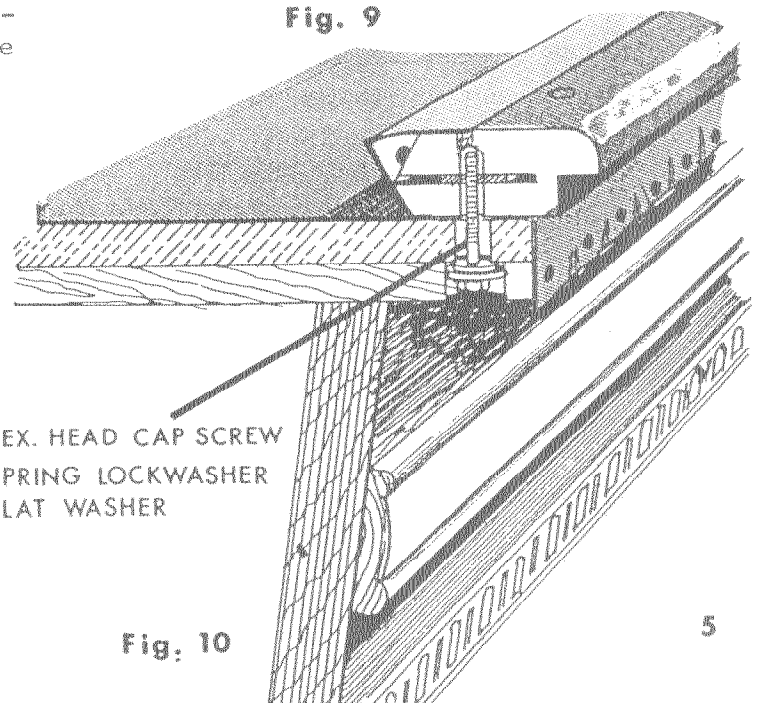

Fig. 10
21. Align holes in bottom of rail with holes through slate frame. Adjust side rails until the cushion nose forms a straight line from head end corner pocket to foot end corner pocket. Fasten rails securely with hardware shown (Figure 10) maintaining a straight line as sighted along side rail cushion nose.